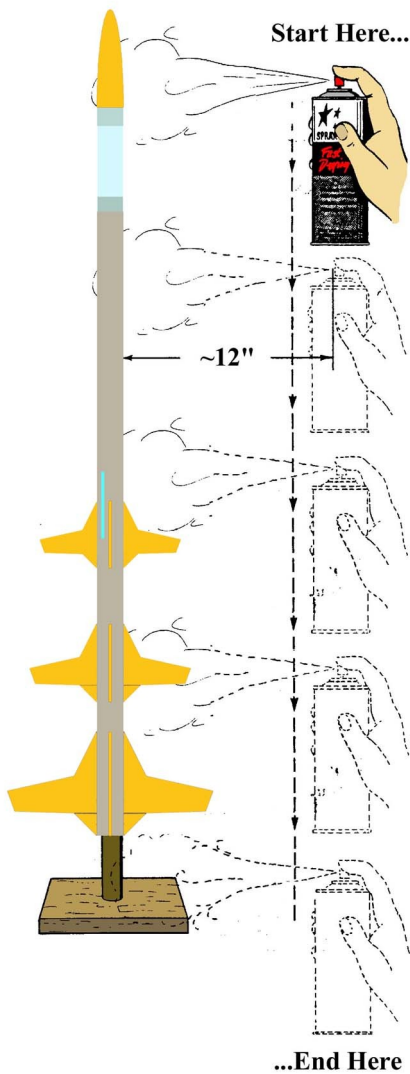

Figure 12
- **Step 24** The illustration in Figure 12 shows the correct way to spray your model, regardless of the equipment used. Always spray the model from top- to-bottom, never from side-to-side, or bottom-to-top. Use the CD-R spindle as a cheap holding spike. Maintain a distance of about 12" between the tip of the spray and the model. This step applies to primers, paints, and final gloss coats.